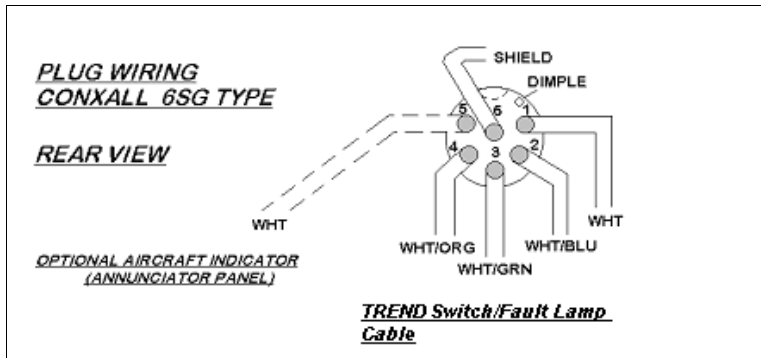

Figure C- 18: TREND Switch and Lamp Connector Wiring
- ❑ 020 Refer to the illustration Figure C- 18 and connect the cable to the included ConXall™ connector using the socket configuration shown. Splice a short wire lead to the cable shield with a shrink-on solder sleeve to make the Pin 6 shield connection, upper and middle.